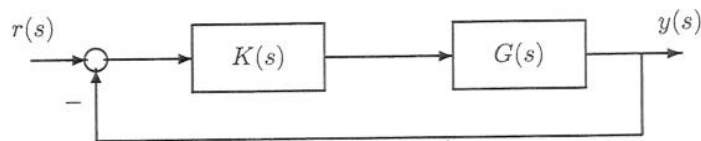

Figure 3
3. Consider the feedback control system shown in Figure 3 below. Here,